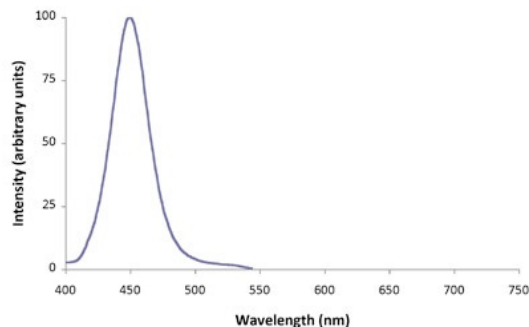
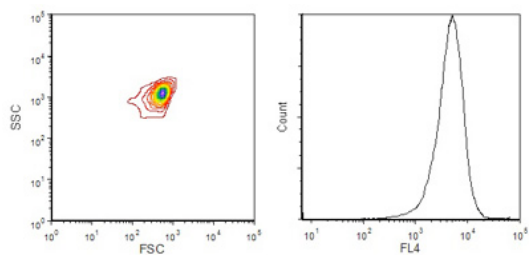

Figure 1. Emission spectrum of Zepto™ Ultra Express Blue Microspheres.
Figure 2. FSC-SSC plot and fluorescence histogram in the DAPI/Pacific Blue channel of Zepto™ Ultra Express Blue Microspheres on a flow cytometer.
The emission spectrum is illustrated in Figure 1. They are a suitable for a wide range of fluorescent assays such as flow cytometry-based assays. Their Forward Scatter (FSC) vs. Side Scatter (SSC) plot and fluorescence histogram in the DAPI/Pacific Blue (405 nm excitation; 455 nm emission) on a typical flow cytometer are illustrated in Figure 2.
1. Gate on the single population of microspheres on FSC vs. SSC plot (refer to Figure 2)